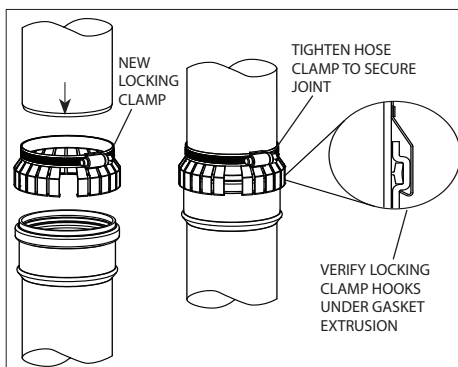
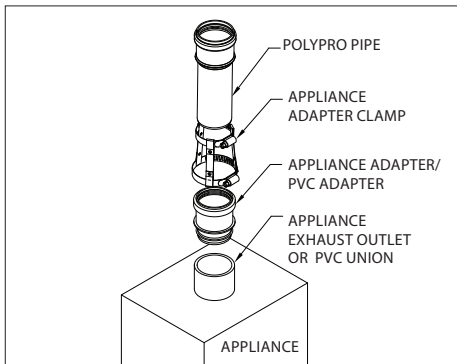
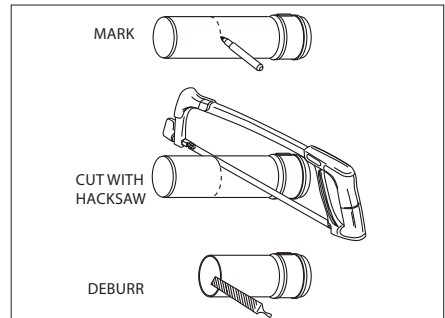

Figure 3b
Figure 4
Figure 6
Locking Clamp (New Design): Verify the gasket is seated evenly inside the groove in the female end. Assemble the joint by passing the male end of the Polypro Pipe through the Locking Clamp on the hose clamp side and into the female end of the PolyPro pipe, (**Fig.3b**). Hook the Locking Clamp onto the gasket extrusion on the female end and tighten down on the hose clamp.
1. If the appliance has a PVC/CPVC female outlet, use the Appliance Adapter/ PVC Adapter and Clamp. (**Fig.4**)
1. Pipe lengths may be cut to length (**Fig.6**). **If the Locking Tab is removed use the new Locking Clamp (Fig.3b PPS-LC) or alternative clamp (Fig.4 PPS-PAC / PPS-LBC) for the connection.**